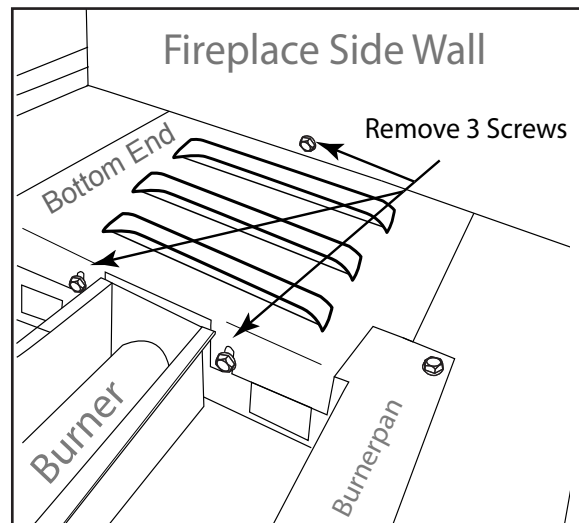

Fig. 2 Removal of burner pan screws.
RECOMMENDATION: Once the gas line is established it is recommended to remove the burner pan from the firebox until the fireplace is in the final stages and ready for the burner installation. Burner pan requires the removal of (4) screws at each corner of burner pan lip in addition to the (3) screws shown in Fig. 2.
Step 1: Remove the bottom end (it has 3 screws) from the opposite end of the burner pan. See Fig. 2.
Step 3: Remove the four (4) screws (two on each end) of the burner pan. They are located at the outer edge of the burner pan, one each corner (See Fig. 2).